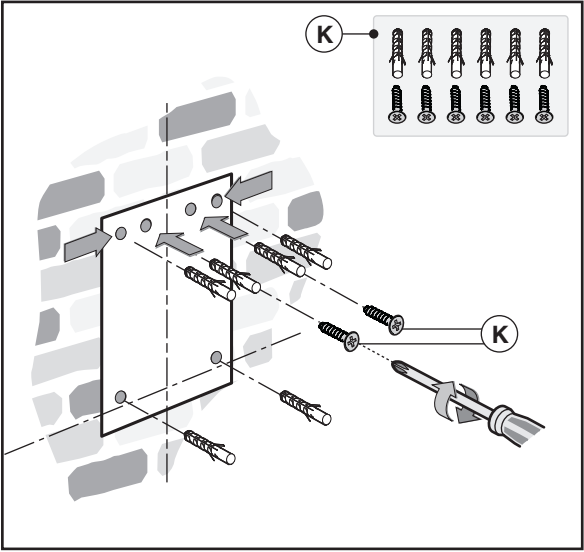

Fig.5
- Mark the fixing holes and cut them into the material (Fig.5).
- Fix the 2 top screws **K** and screw anchors (Fig.5), without tightening them completely.